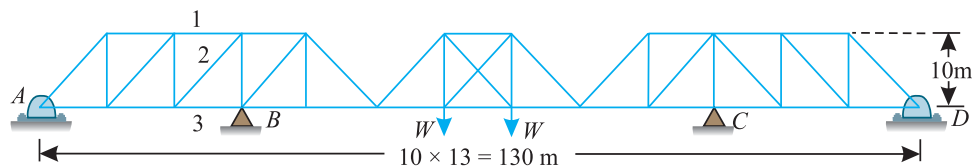

Fig. 13.54.
**Example 13.17.** Figure 13.54 shows a bridge truss of 130 m span subjected to two points loads.